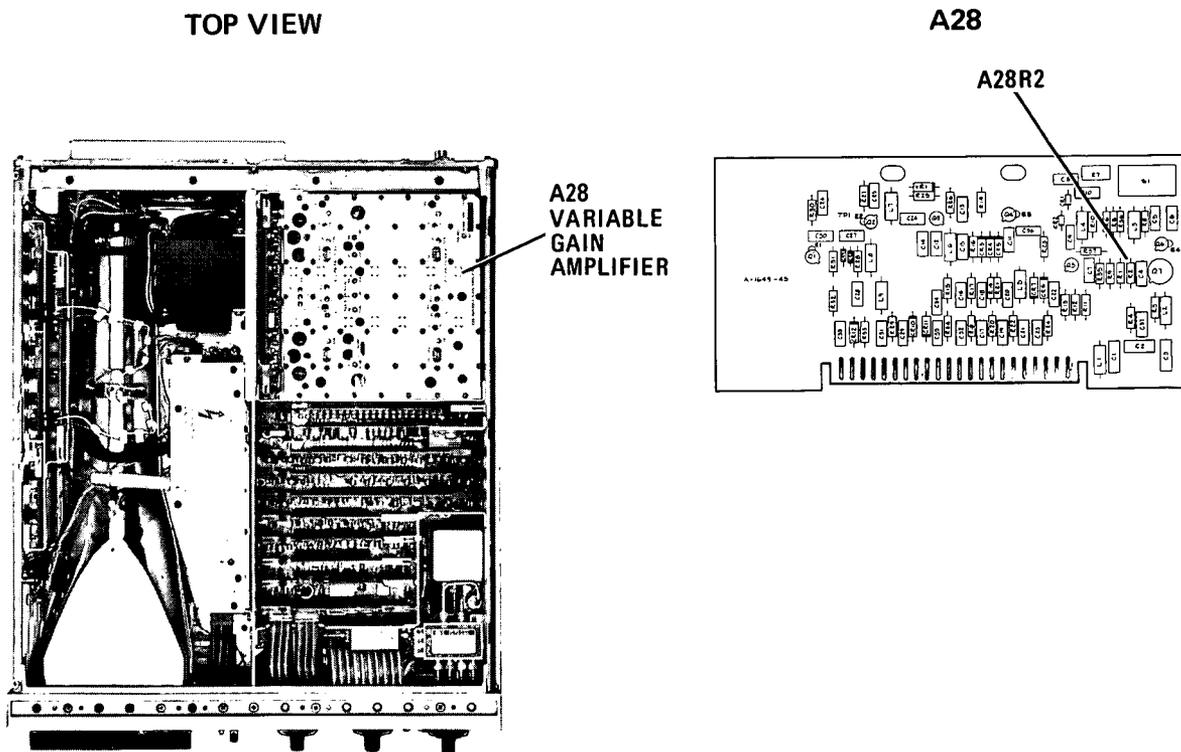

Figure 5-61. Absolute Amplitude Calibration Adjustment Locations
- f. For every dB signal peak is away from this graticule line, change value of factory selected resistor A28R2 (Figure 5-61) by 10%. (An increase in resistance will increase signal level.) When signal is within 1 dB of graticule line, proceed to step g.